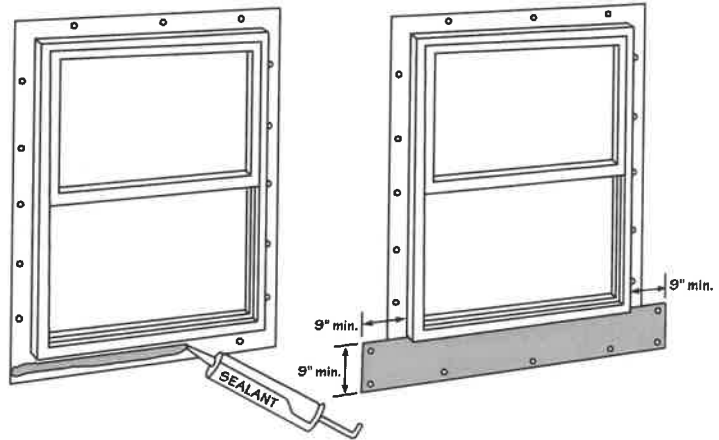

Figure 31.
- Apply a continuous bead of sealant to the nailing flange of the sill in a manner that covers the nails and nail slots. Apply a minimum of 9" (229mm) wide horizontal sill flashing level with the bottom edge of the existing window by pressing the flashing into the sealant bead at its top edge. Cut the sill flashing long enough to extend a minimum of 9" (229mm) beyond each jamb. Fasten the sill flashing at the bottom and side edges (Fig. 31).